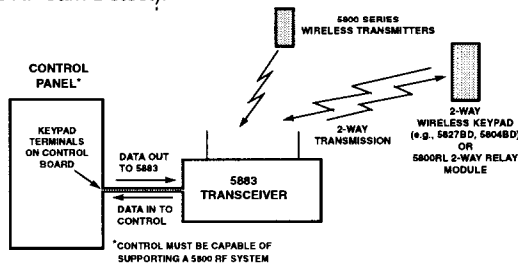
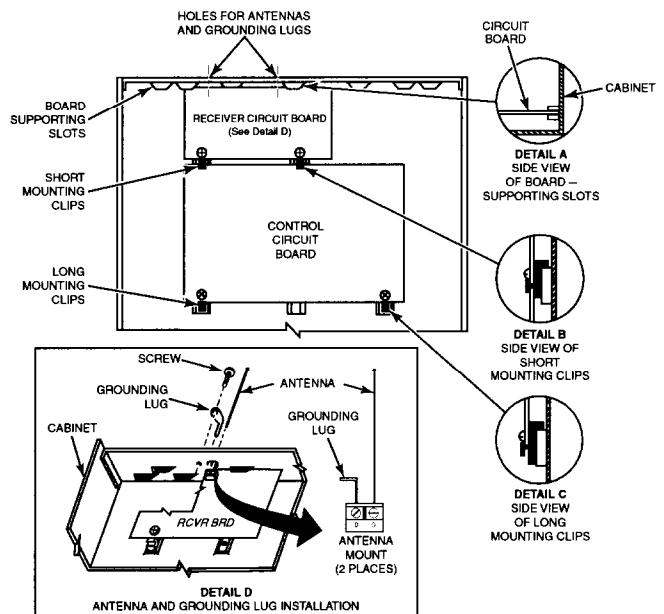

Figure 1. Block Diagram
Figure 2. Installing the 5883 Board in the Control's Cabinet (Check the control's Installation Instructions for applicability)
The 5883 RF Transceiver Module contains an RF receiver and a transmitter. It is intended for use with ADEMCO's 5800 series RF transmitters, including bi-directional units (e.g. 5827BD, 5804BD), and the 5800RL Wireless Relay Module (see Fig. 1).
### Mounting inside the control's cabinet (refer to Fig. 2):
3. Hang two *short* (black) mounting clips (provided) on the raised cabinet tabs in the cabinet, as shown in Detail B of Figure 2.
2. Insert the top of the board into the supporting slots at the top of the cabinet (see Figure 1 and Detail A, Figure 2).